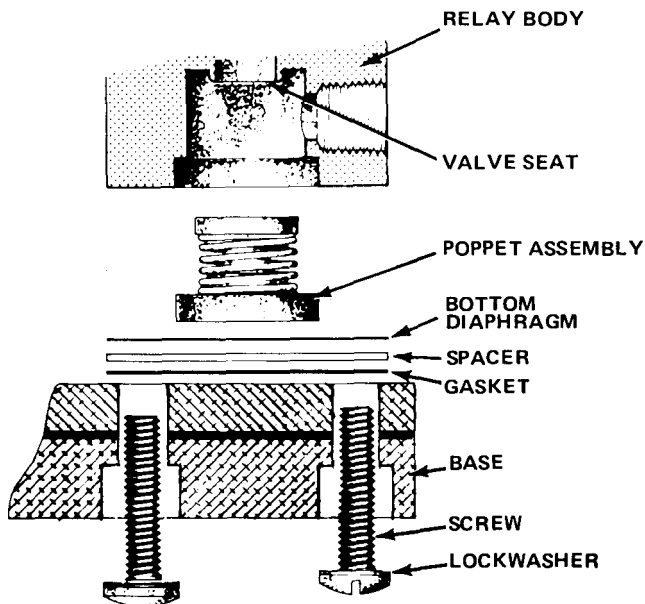

Figure 3
- A. If excessive leakage occurs at valve seat, remove Diverting Relay from base. Clean poppet and seat with soft, dry cloth (See Figure 3).